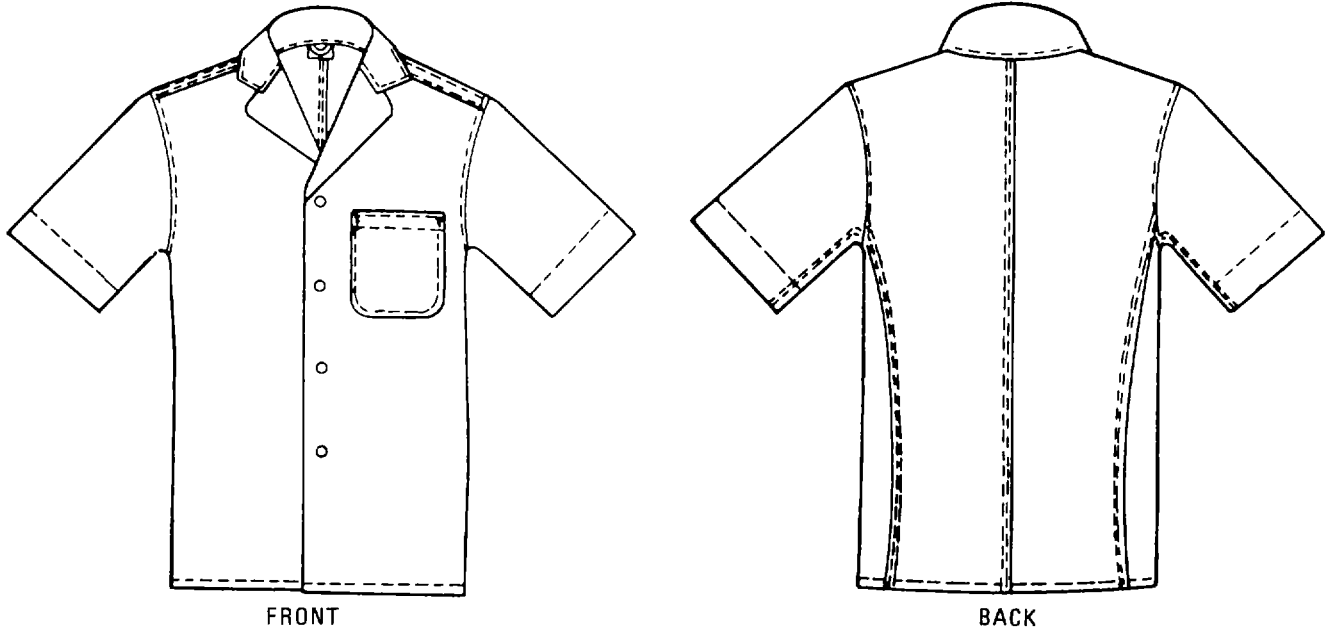

Figure 7-2. Coat, food handlers, cotton drill, white, type 1.
- b. Coat, Food Handler's, Cotton drill, white; short sleeves, bakers and cooks, conforming to FED. BBB-C-521; NSN 8415-00-543-6883, 8415-00-185-0515 thru 0518. This item is fabricated of 6 5 ounce white cotton drill. It is a four snap, single breasted model, collar with separate stand notched lapels, left breast pocket, and two-piece back (fig. 7-2).